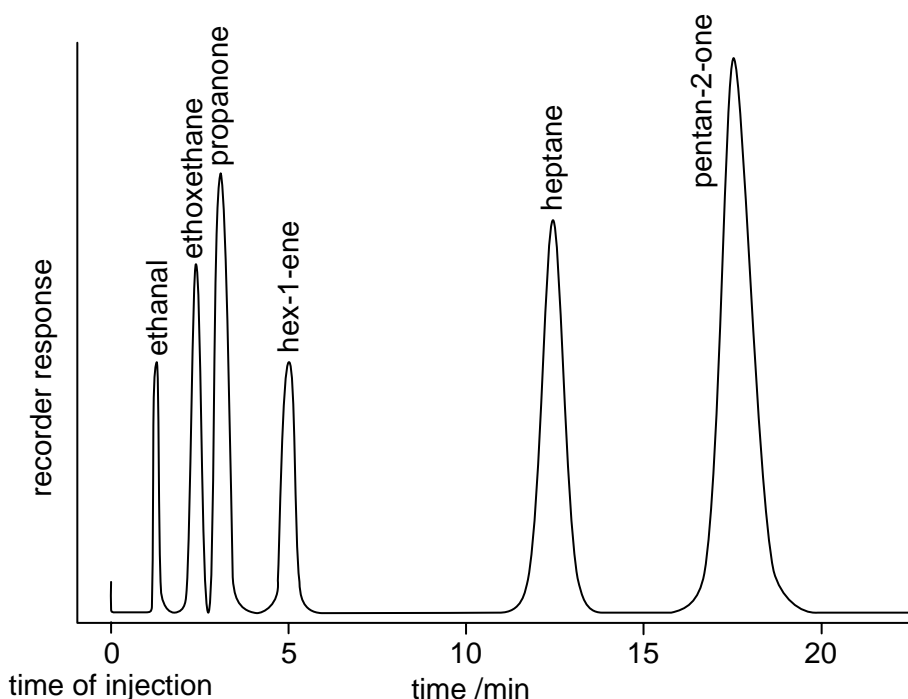

Figure 2.35 – a GLC chromatogram of a mixture of organic chemicals
Figure 2.35 shows a GLC chromatogram of a mixture of organic chemicals.
- SAQ 11.** (a) Referring to Figure 2.35, which compound is present in the largest amount?